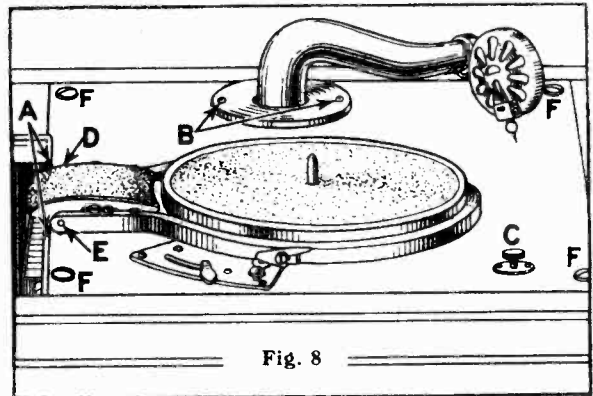

Fig. 8
- a. Remove the screws "A" (Fig. 8) on the ferrule around the record chute.
- b. Remove the two (2) screws "B" in the tone arm plate.
- f. Remove the four (4) large screws "F."